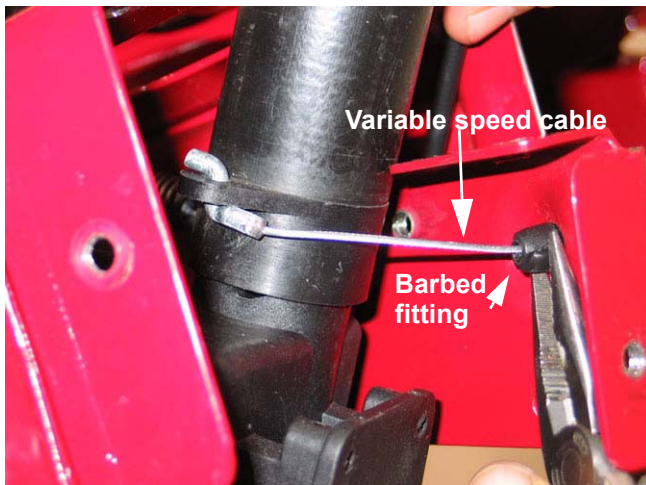

Figure 3.15
- 3.15. Remove barbed fitting holding the variable speed cable to the transmission bracket. See Figure 3.15.